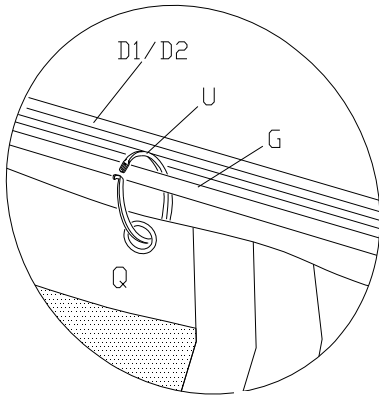

Fig. 12
Hang the Mosquito Netting(Q) onto the inside Sliding Rail (G) with the Plastic Ring(U). (See Fig.12)